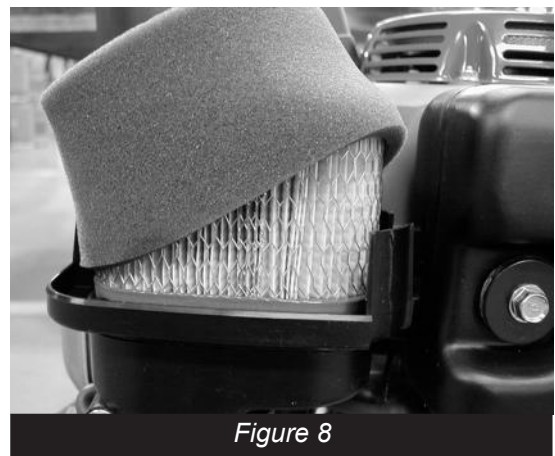

Figure 8
- Inspect the air filter (*Figure 8*) for excess dust, dirt or damage before the engine is operated. More often if operating in a extremely dusty environment.